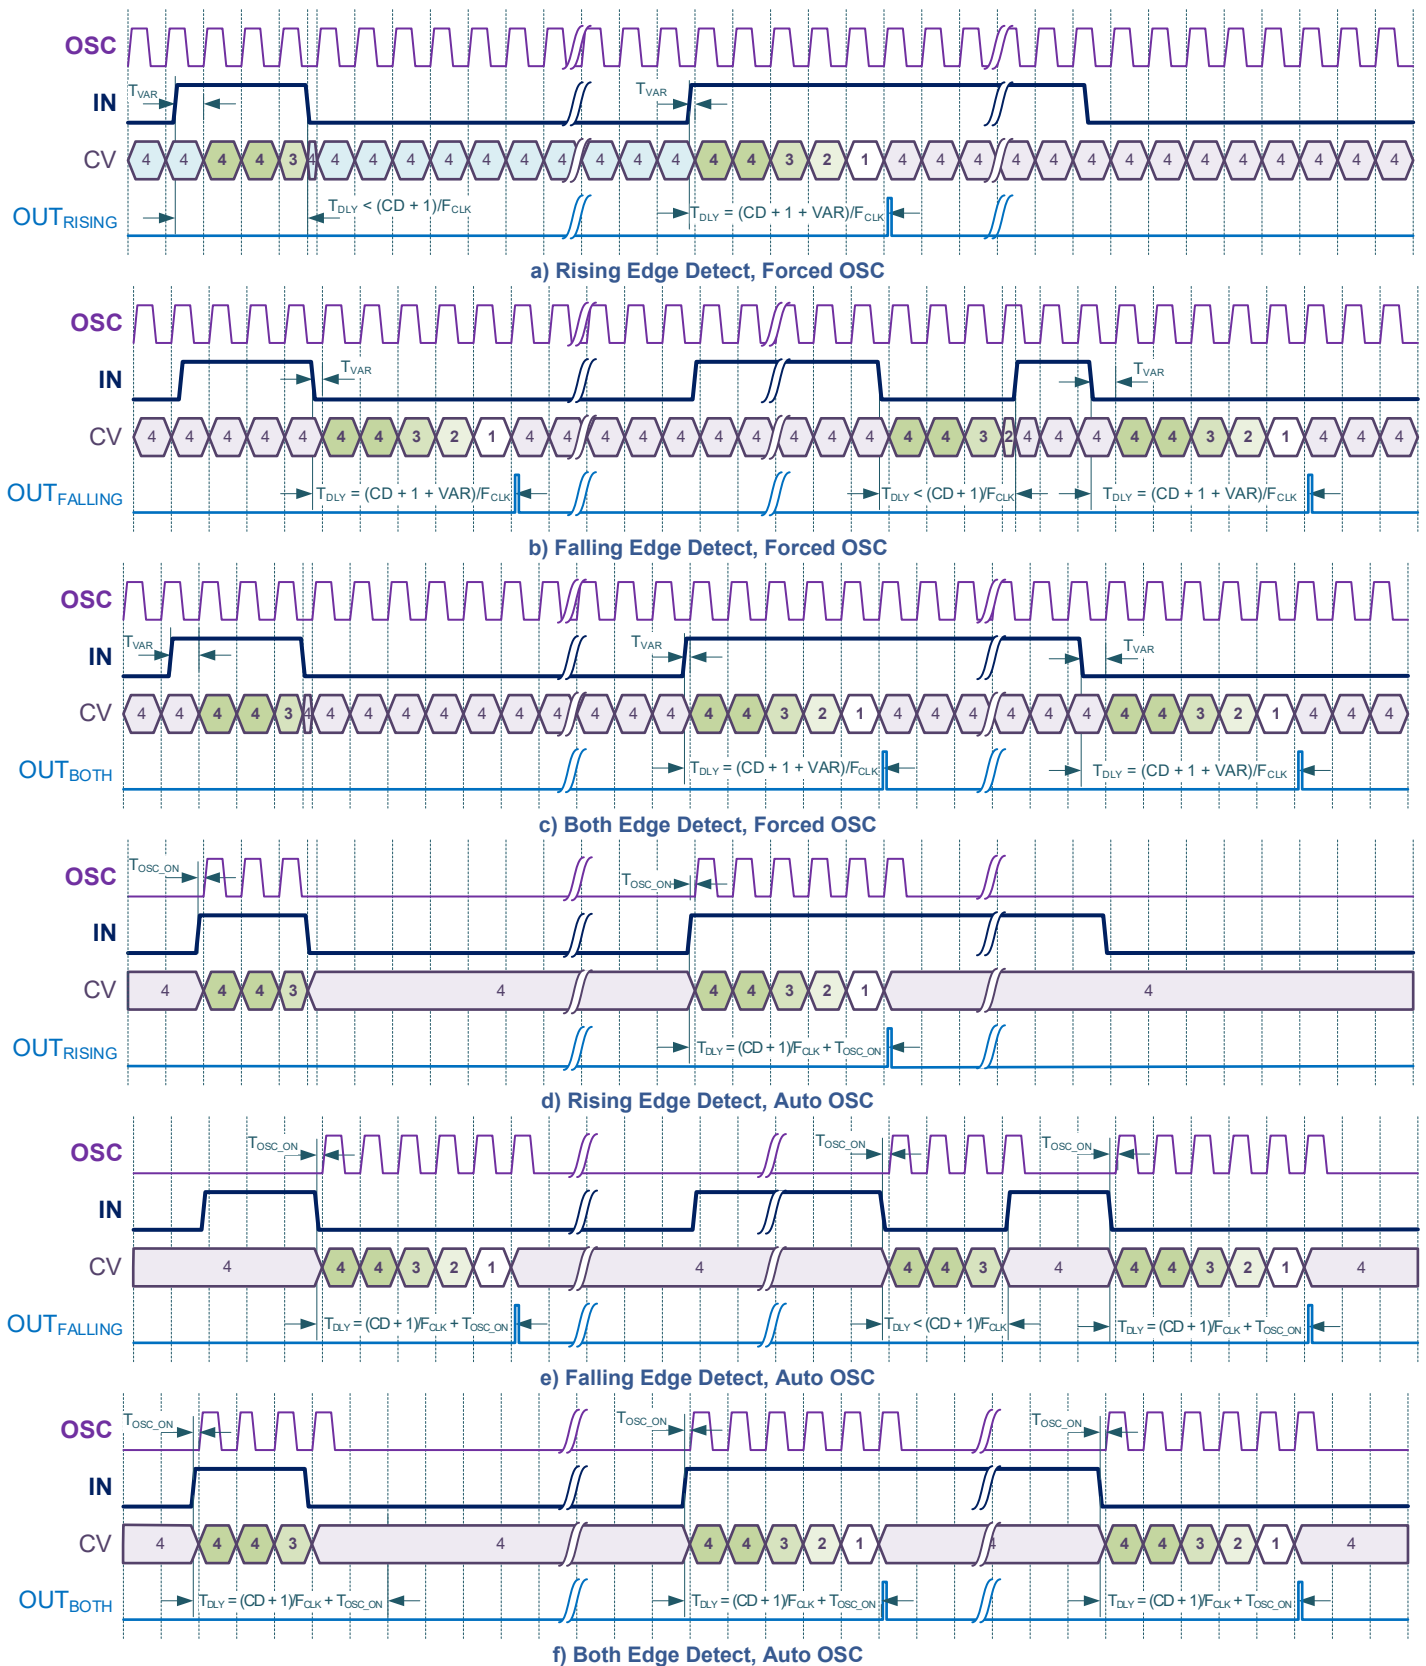

Figure 8.9. Delay Edge Detect Mode (Control Data: 4)
In the Delayed Edge Detector mode, the TMR generates delayed short high-level pulse (for non-inverted polarity) when detecting the respective selected edge event (rising edge, falling edge, both edges). The delay time is determined by the Control Data, input clock signal, and selected prescaler value. The timing diagrams of this mode are shown in the Figure 8.9.
- Delayed Edge Detector (Figure 8.9)